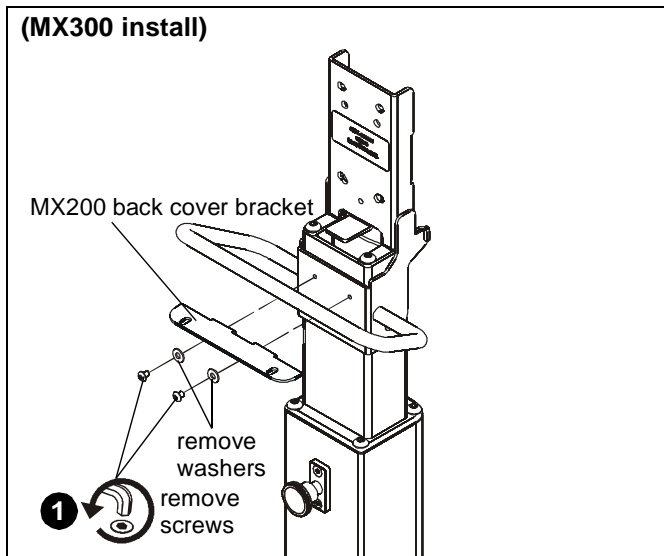

Figure 5
1. Remove MX200 back cover bracket from column assembly (D) by removing two screws and washers holding back cover bracket to assembly. (See Figure 5)